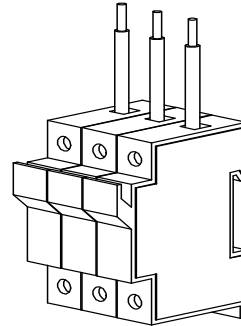

Figure 3-10 Fuse Holder with 10AWG Wiring
- b) Insert one end of each wire into each of the three top lugs of the fuse holder. See Figure 3-10.